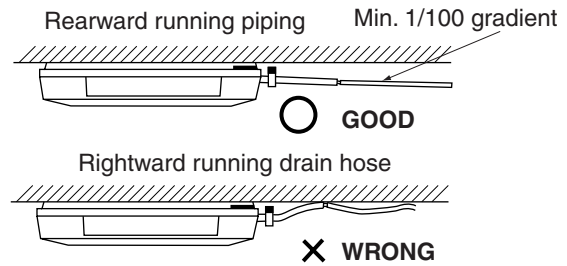

Fig. 27
- Keep the drain pipe short and sloping downwards at a gradient of at least 1/100 to prevent air pockets from forming. (Refer to Fig. 27)